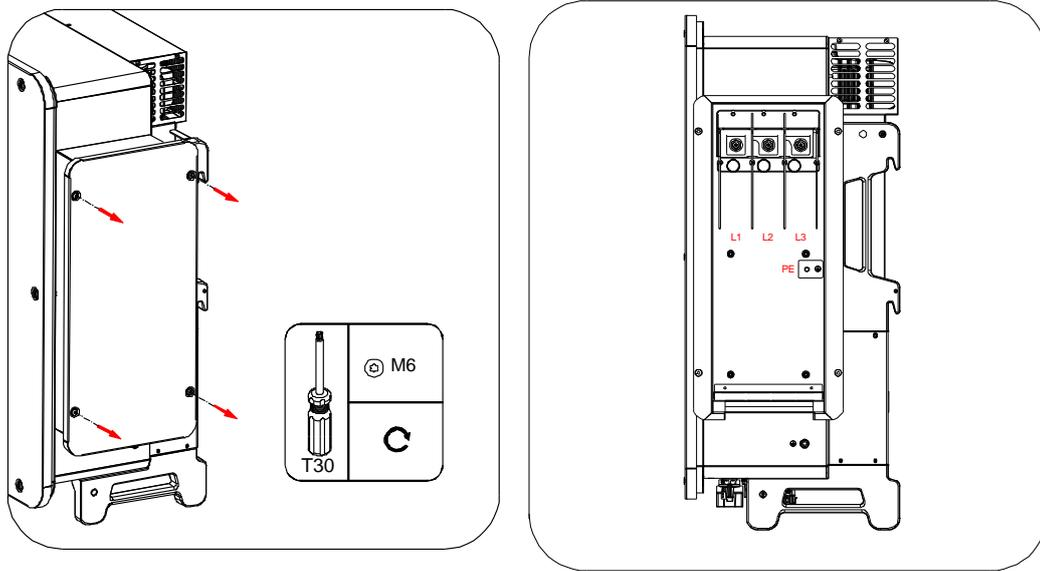

FIG 4-9 Open the wiring box cover
Step 2: Open the wiring box cover, remove the accessories, and properly save them, as shown in FIG 4-9.